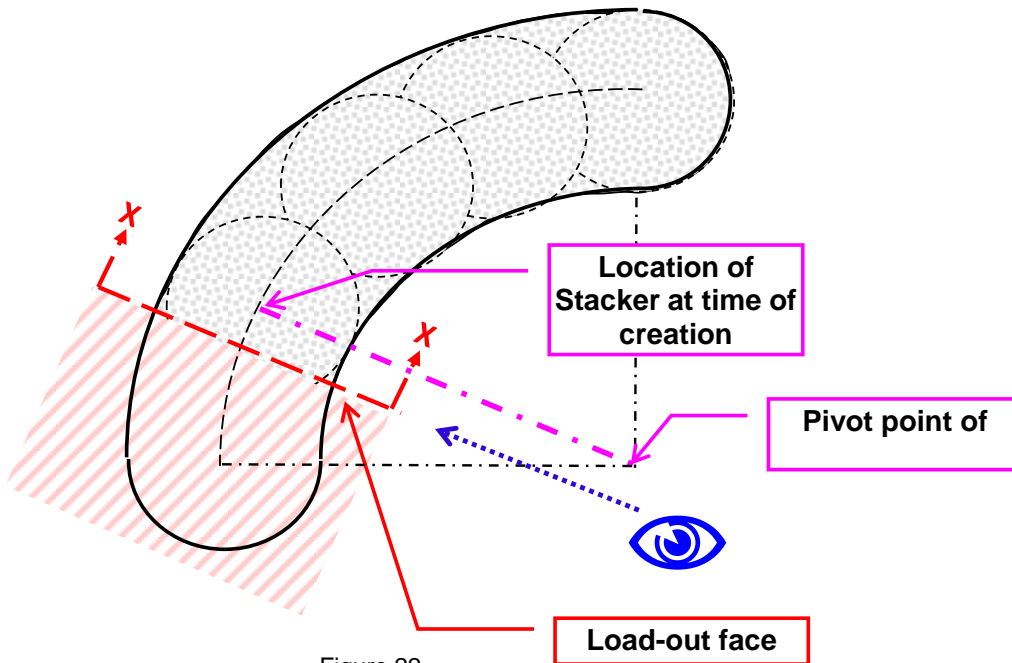
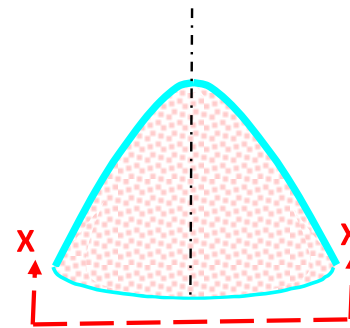

Figure 22
Figure 22a
- (a) Rule of Thumb #1 - On a radial stockpile (Figure 22) being loaded out at 90° to creation, the load-out face will be parallel with but offset from a straight line between the pivot point of the stacker and the peak of the pile at time of creation.
- (b) Rule of Thumb #2 - Checking symmetry of a stockpile - A radial stockpile (Figure 22) being loaded out at 90° to creation is generally symmetrical in appearance about the peak of stockpile as shown in Figure 22a.